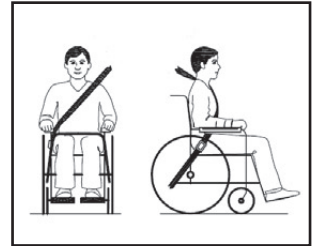

Figure 5
*Removing the headrest (see fig. 5)**
- Pelvic restraints should make full contact across the front of the body near the junction of the thigh and pelvis. The upper belt must fully support the user as illustrated in figure 5.